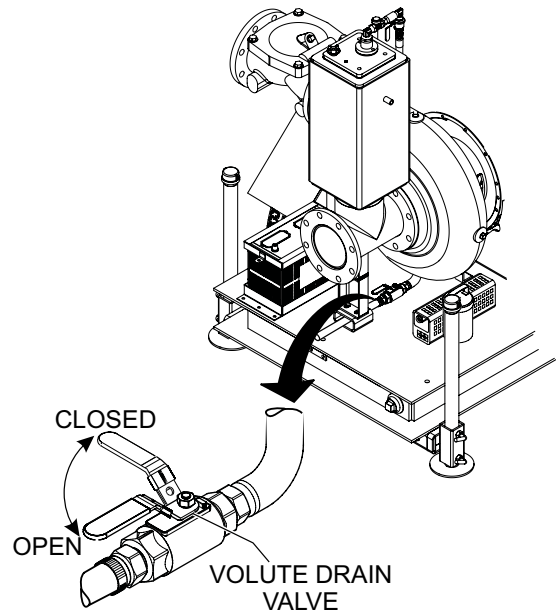

Figure 41. Volute Drain Valve (Open)
4. Place the volute drain valve (Figure 41) in the **OPEN** position.